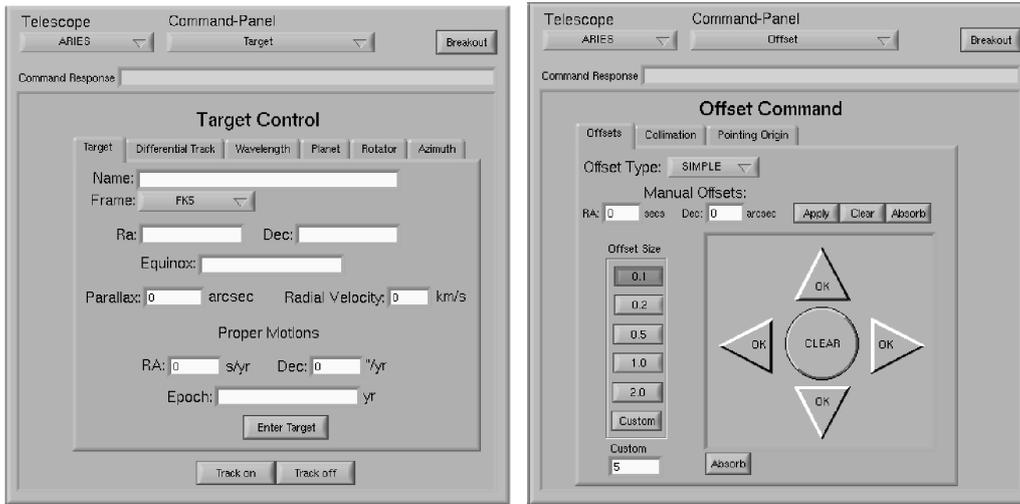

Figure 9: TCS command panel to enter target (left panel) and apply offsets manually (right panel) to coordinates.
- In the TCS window, open the **Target** command panel as shown in the left panel of Figure 9.
- The offsets can be applied manually as well. This can be done using the "Offset command panel" in the TCS window as shown in the right panel of Figure 9.